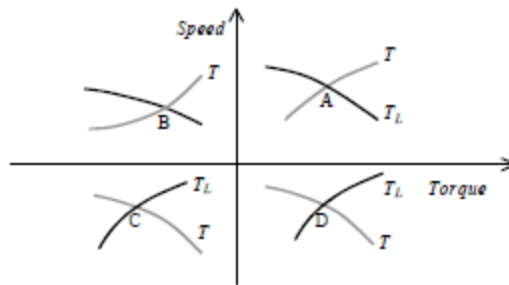

Figure 5
8. Figure 5 shows the torque-speed characteristics of the motor and the load in the four quadrants. Comment on the stability of the equilibrium points A, B, C and D.